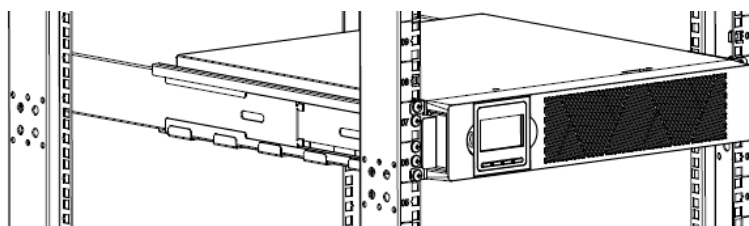

Figure 3 Securing the Front of the Cabinet
- j) Secure the front of the UPS to the rack using four M5x25 pan-head screws and four M5 floating nuts (see Figure 3).